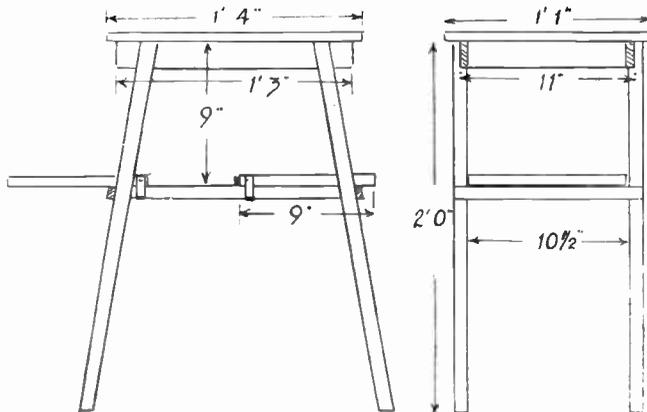

Fig. 1 - Front and side views, showing measurements
Fig. 1 shows a front and side view of the article, which is quite easy to construct. Commence by making the underframe of the top. Cut the sides to length, and near each end chisel out grooves, $\frac{1}{4}$ in. deep, at the angle given at (A) in Fig. 2 for the legs. Cut the ends, and join these to the sides with a rebated joint, as at (B), the rebate cut into the sides being $\frac{1}{4}$ in. deep. Glue and nail these parts together.